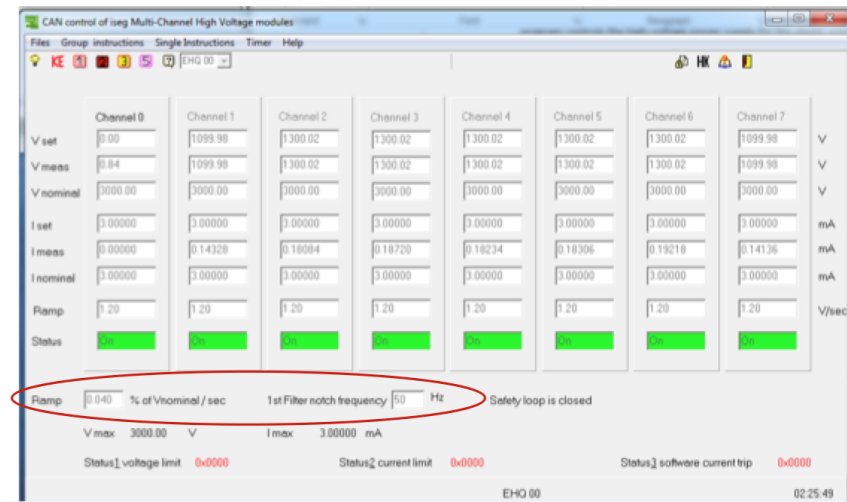

Figure 18. **EHS/EHQ 00** iSEG Multi-Channel High-Voltage Module
10. Select **ESQ00/EHS00** (Figure 18).